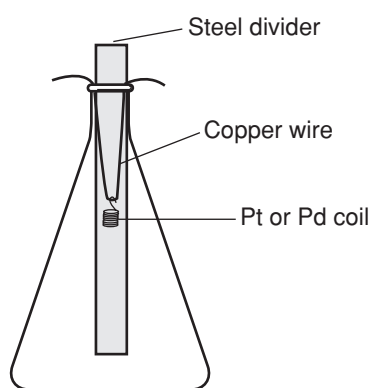

Figure 1.
1. Set up the apparatus as shown in Figure 1. Place a steel divider into the Erlenmeyer flask. The divider should be a piece of sheet metal—as wide as the mouth of the flask and a few centimeters taller than the flask.